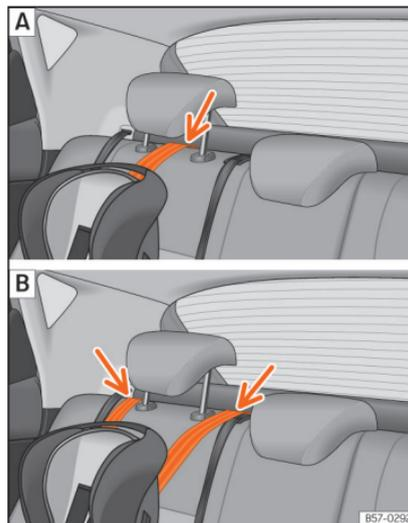

Fig. 28 Rear seats: adjustment and assembly according to the Top Tether belt. »
- Place the belt under the head restraint of the back seat »» Fig. 28 (depending on the instructions of the chair itself, lift or remove the head restraint if necessary).